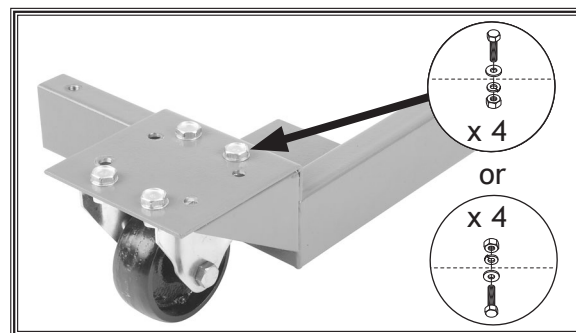

Figure 22. Mounting fixed casters to eight hole pattern corner brackets.
10. Mount each of the two fixed casters to the remaining corner brackets with the eight hole pattern using (4) M8-1.25 x 16 hex bolts, 8mm flat washers, 8mm lock washers and M8-1.25 hex nuts, as shown in **Figure 22**.